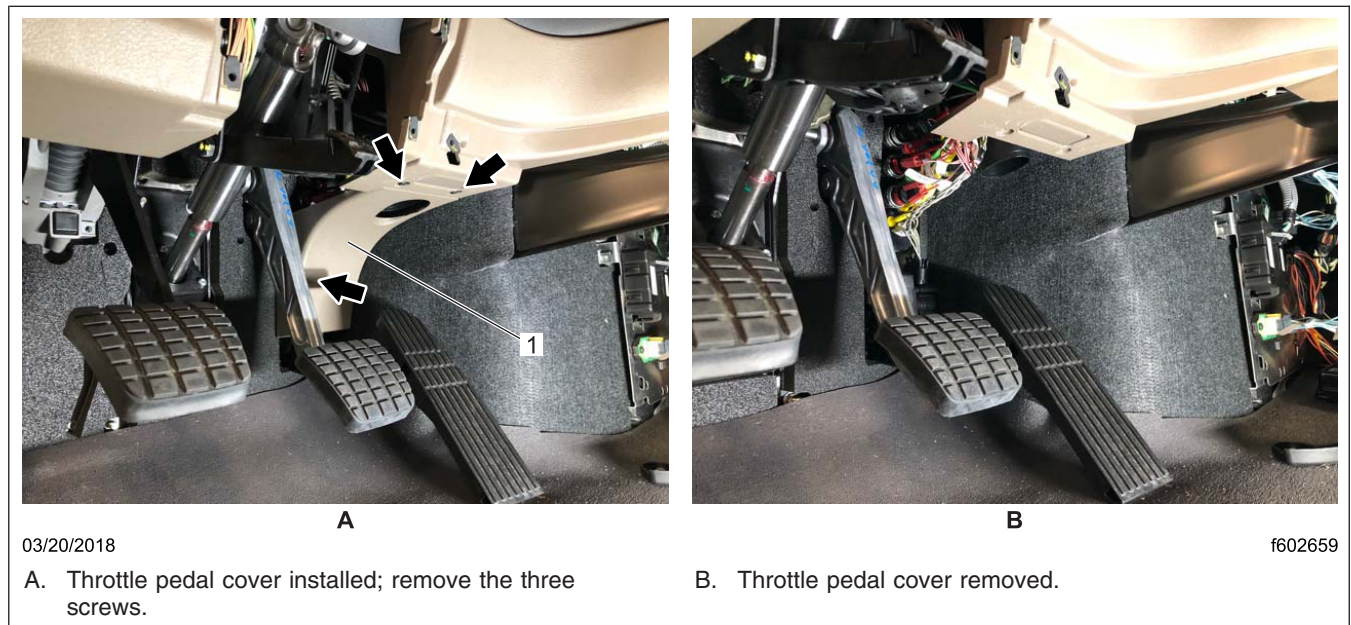

Fig. 3, Removing the Throttle Pedal Cover
4. For Cascadia vehicles, remove the three screws attaching the throttle pedal cover, then remove the cover. See Fig. 3.